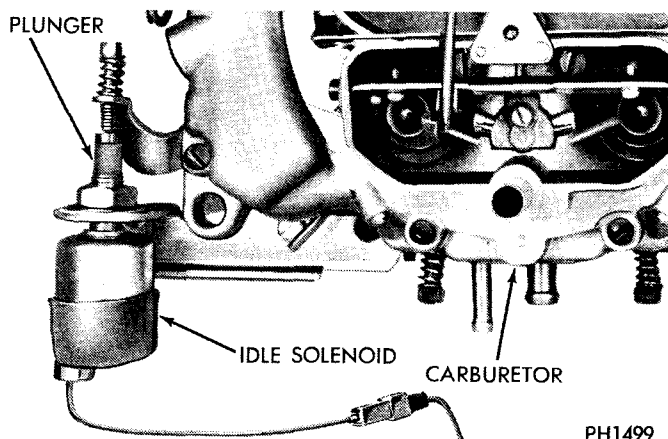

Fig. 13—Curb Idle Speed Solenoid
On engines with solenoid idle stops (Fig. 13) the solenoid plunger must also be in its fully extended position. To extend plunger with engine not running,
(1) Connect a 0-300 psi pressure gauge, Tool C-3293 to apply pressure take-off point at rear servo (Fig. 13).
(2) With transmission control in R (reverse) position and engine speed set at 1600 rpm, reverse servo apply pressure should be 230 to 260 psi.